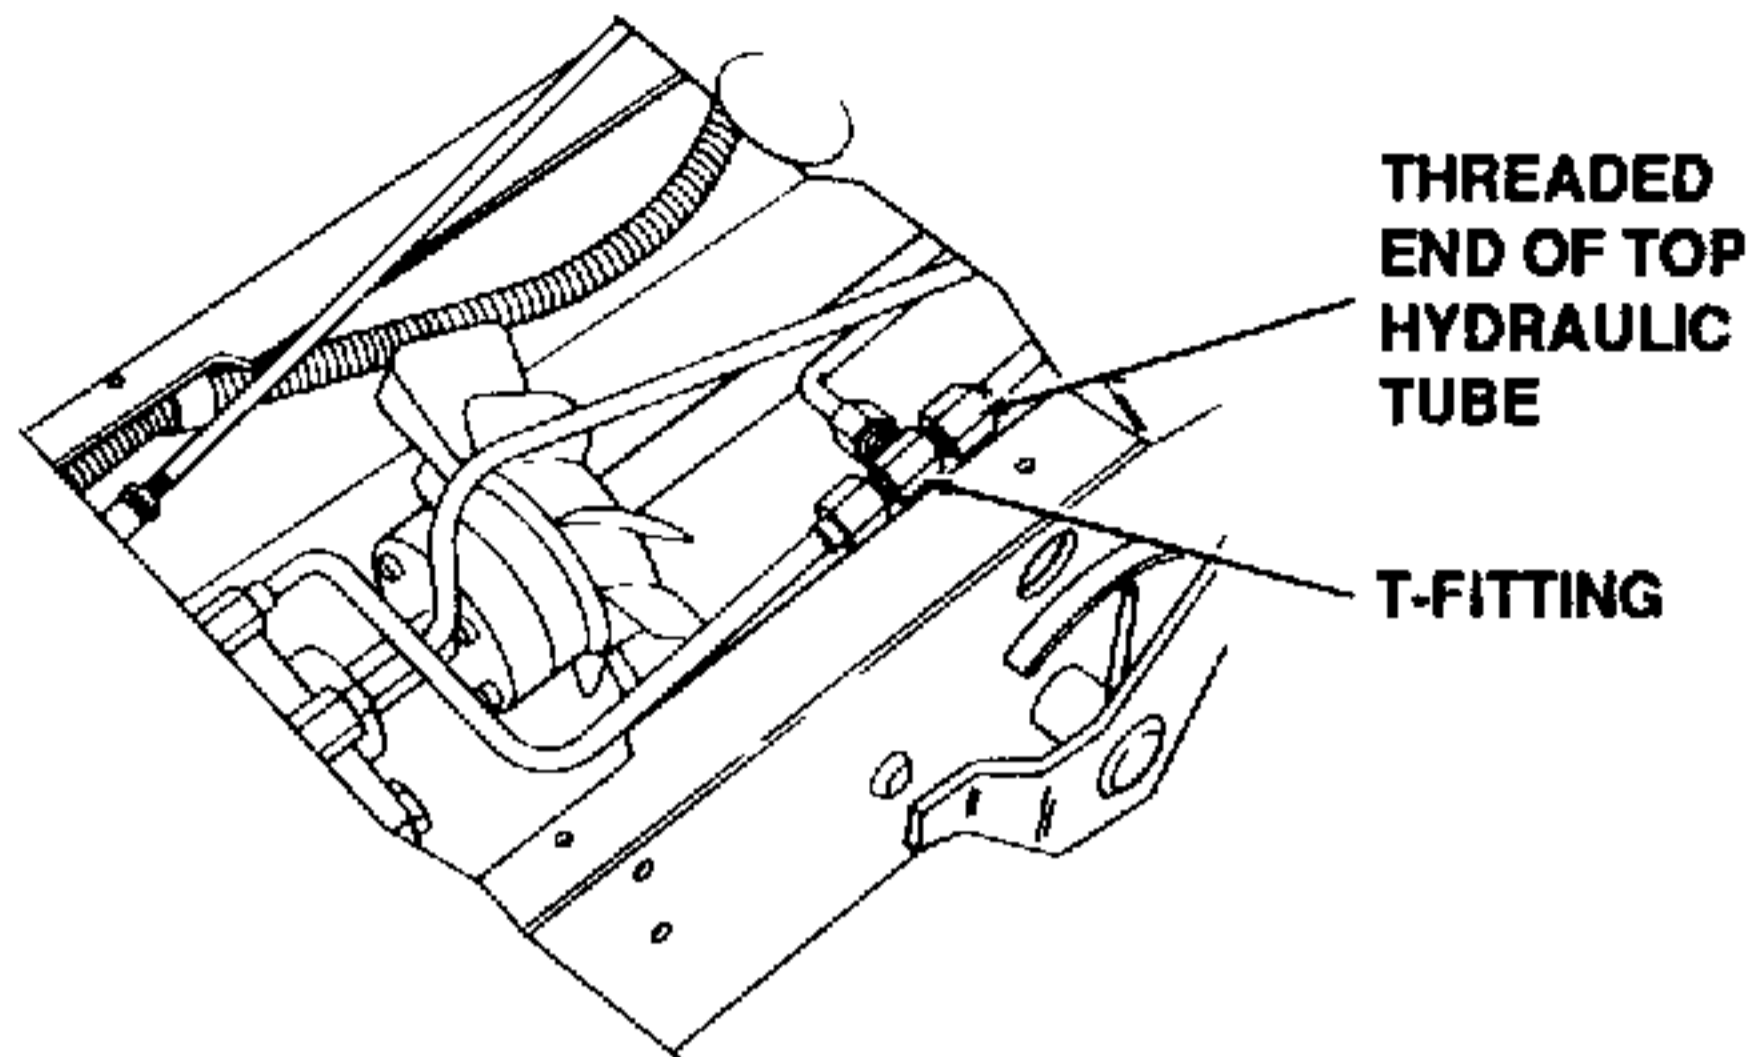

Figure 7-70. Removing Threaded End of Top Hydraulic Tube.
3. For all tractors except Model 1541, refer to Figure 7-70 and remove threaded end of top hydraulic tube from T-fitting.